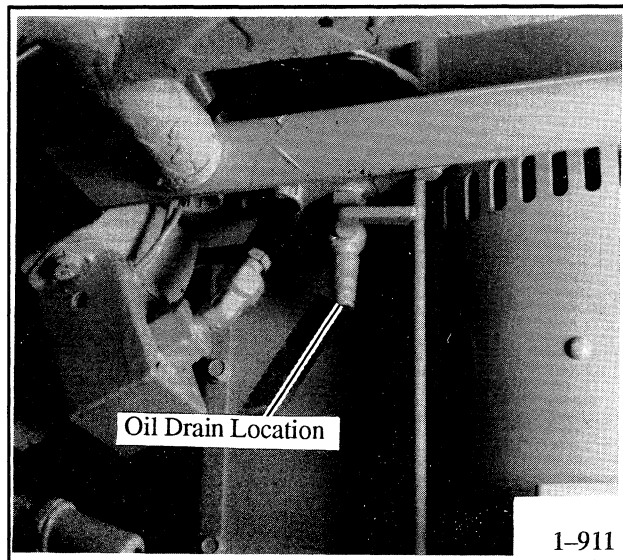

Figure 3-3. Oil Drain Location
Change the oil after the first two (2) hours of operation and at 25 hour intervals thereafter. Change more frequently if operating under dirty, dusty conditions. If possible, drain oil while hot. To drain, open valve. Oil drain valve is located underneath mounting tray. Figure 3-3. Place a container underneath drain valve to catch draining oil. Close valve after oil has completely drained. Oil capacity is 1.25 quarts (1.08 liters). Refer to Oil Selection chart following for correct oil type.